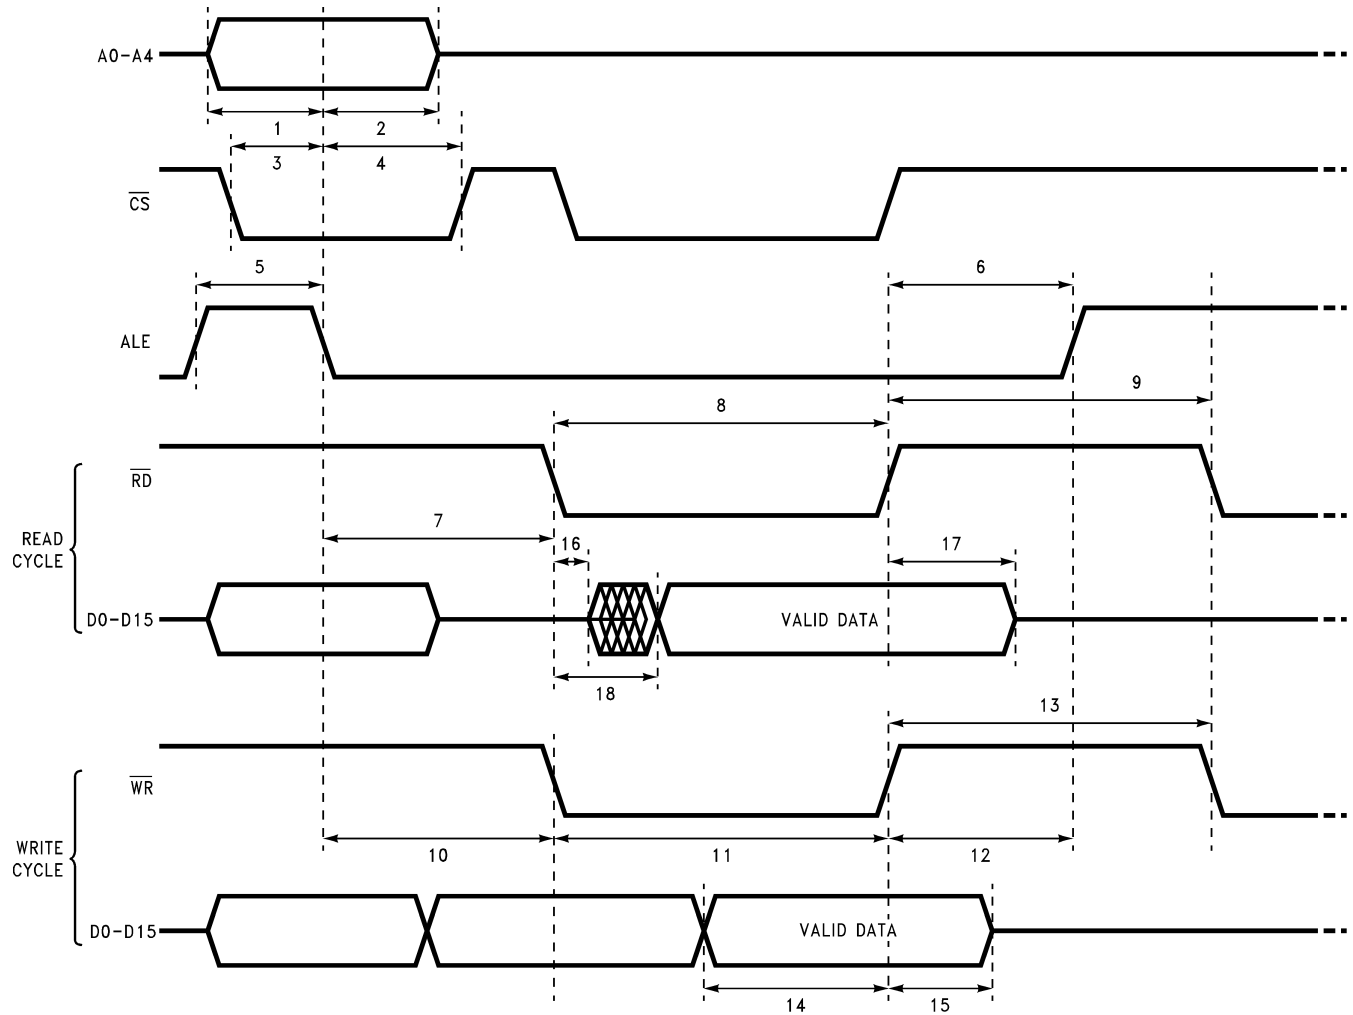
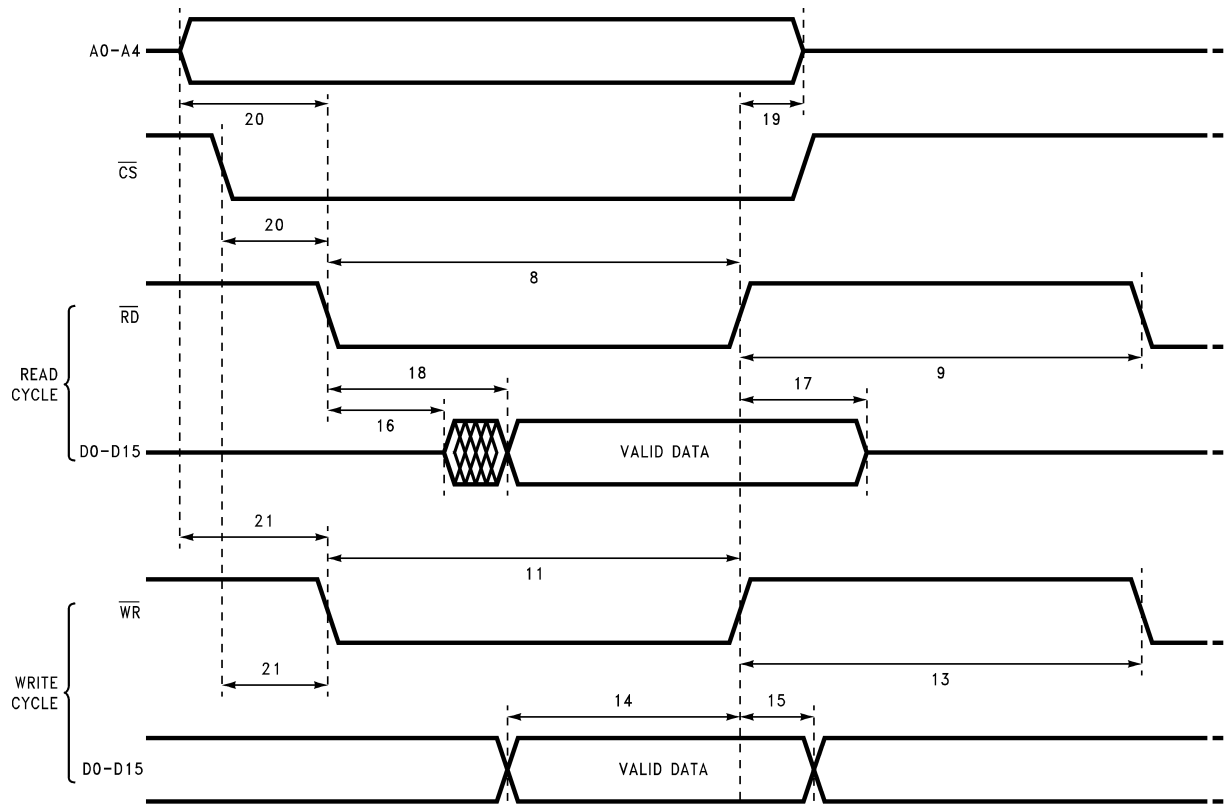

Figure 28. Multiplexed Data Bus
Figure 29. Non-Multiplexed Data Bus (ALE = 1)
- ALE** Address Latch Enable input. It is used in systems containing a multiplexed data bus. When ALE is asserted **high**, the LM12L458 accepts information on the data bus as a valid address. A high-to-low transition will latch the address data on A0–A4 and the logic state on the \overline{CS} input. Any changes on A0–A4 and \overline{CS} while ALE is low will not affect the LM12L458. See Figure 28. When a non-multiplexed bus is used, ALE is continuously asserted **high**. See Figure 29.